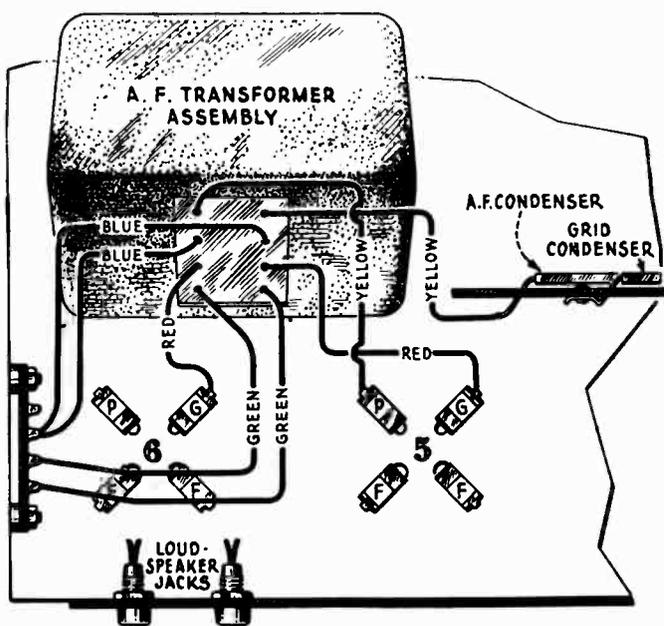

Figure 22—Detail of A. F. transformer connections and color scheme of wiring.
7. Solder all leads in place as indicated by tags attached. The correct connections are shown in Figure 22.